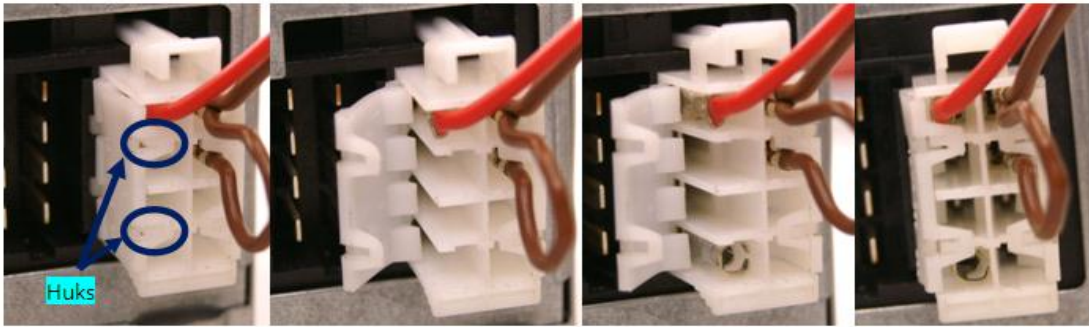

Figure 87 Adding contact on tachograph connector
- Tachograph mounted on vehicles does not have D8 contact. In order to add it, you have to undo the hooks and add the contacts (Figure 87). Contact code in Farnell system: 927368-1.